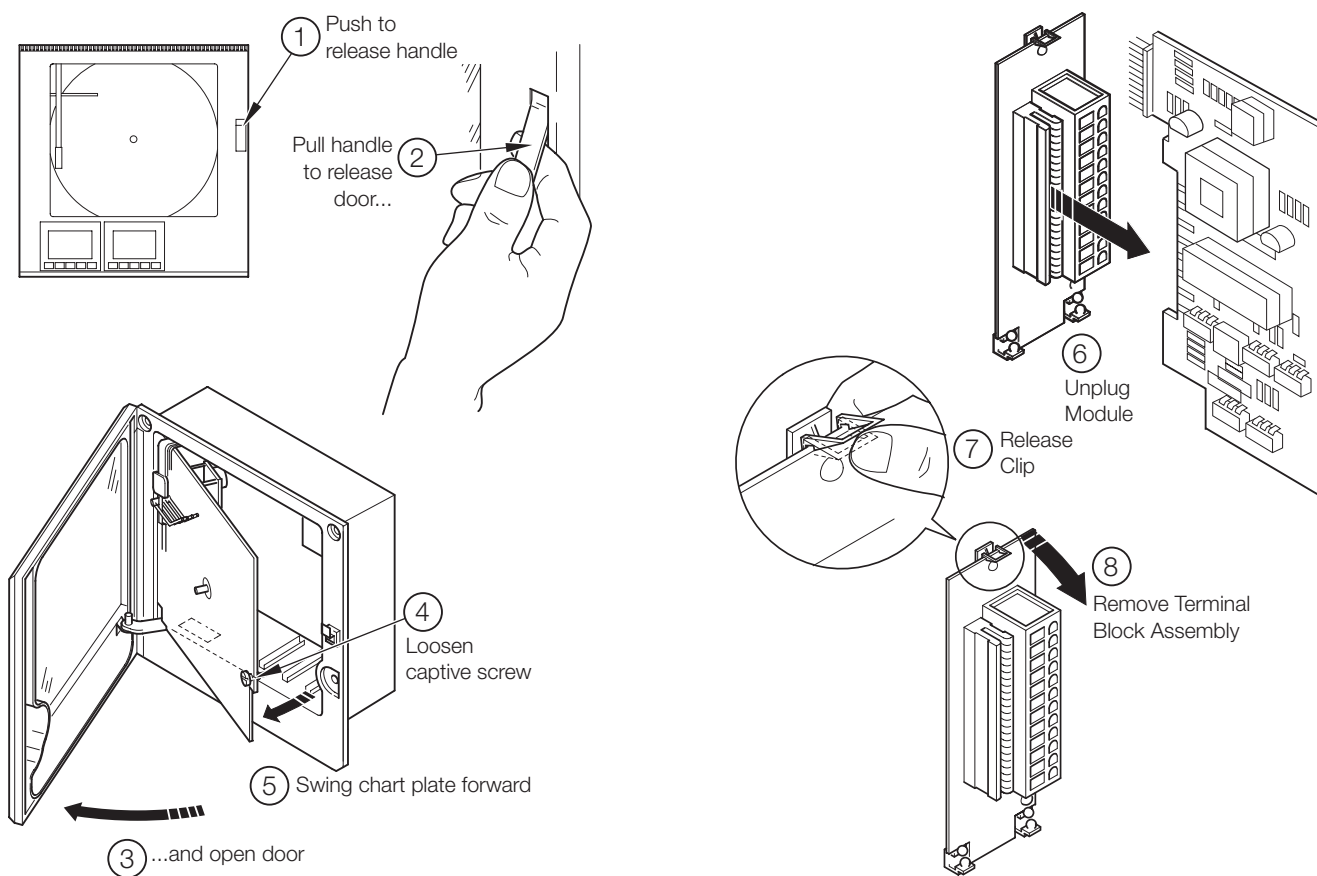

Fig. 5.1 Removing Terminal Block Assembly
- The terminal blocks can be removed from the main PCB when making connections – see Fig. 5.1. Before removing a module, note its position.
5.1 Identifying the Input/Output Modules – Fig. 5.1
To gain access to the modules, open the door and chassis – see Fig. 5.1. There are five module positions (2 to 6) as shown in Fig. 5.2.